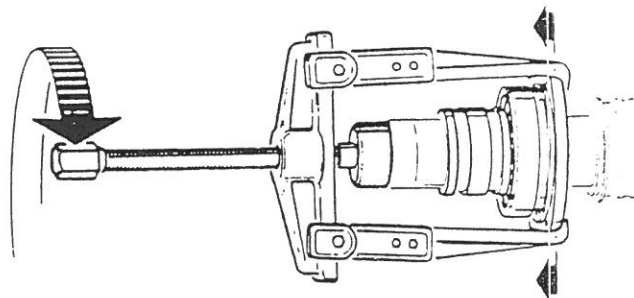

Figure 8
2. Remove the screws (24) of the bearing housing cover (25) and loosen the screws (35) of the labyrinth ring (34). Remove the bearing housing (32) and labyrinth ring (34).
3. Remove the bearing housing cover (25), grease valve disk (27), spacing ring (29), ball bearing (31), and spacing sleeve (36) with the puller as shown in figure 8. The claws of the puller should rest against the bearing housing cover.